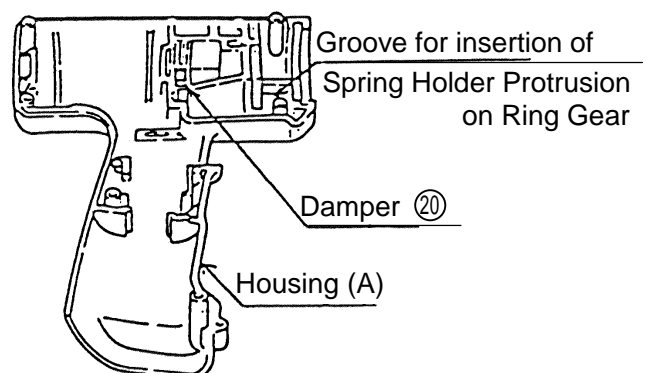

Fig. 8
- [3] Assemble the Damper ⑳ into Housing (A). (Fig. 8)